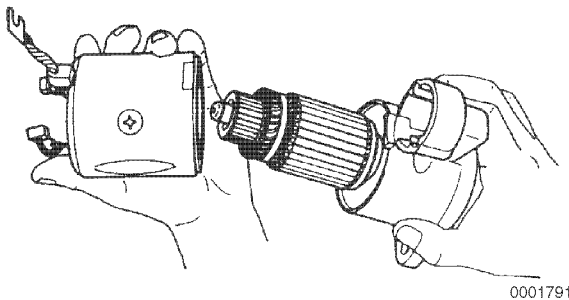

Figure 8-9
12. Pull off the field assembly from the armature assembly (**Figure 8-9**).